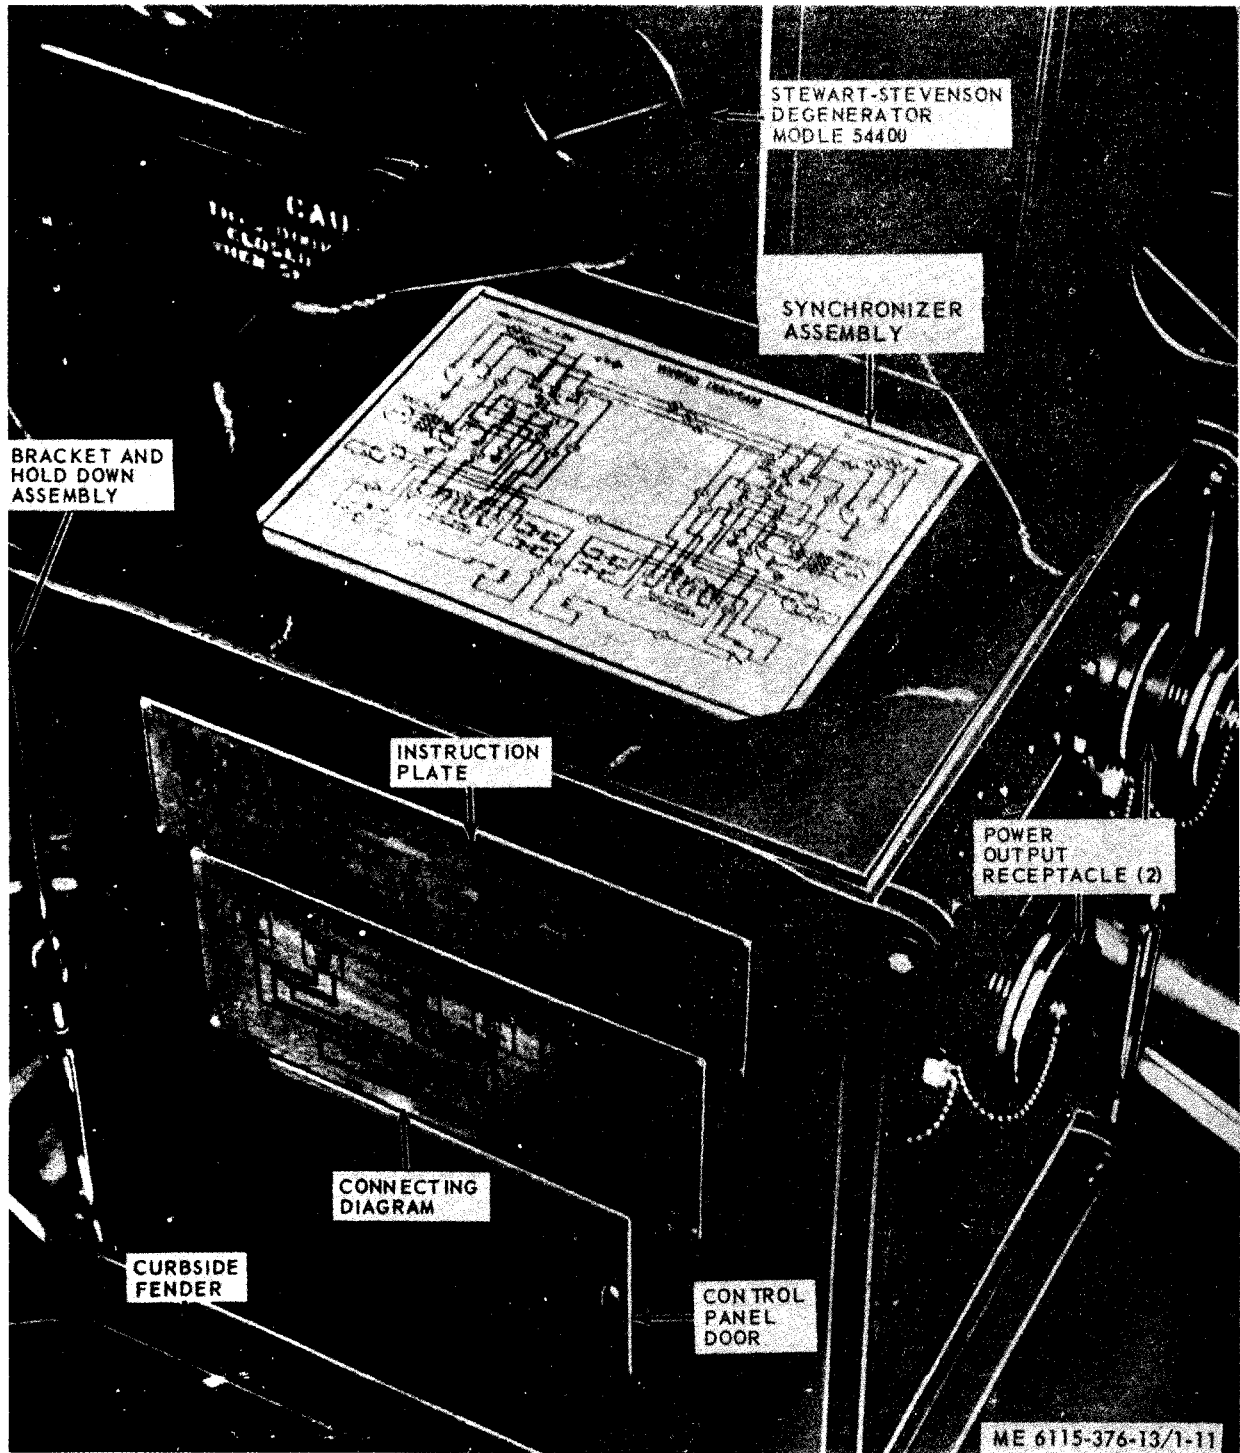

Figure 1-11. Synchronizer assembly (PU-407/M only).
j. Synchronizer Assembly (P U-4 07/M) (fig. 1-11).